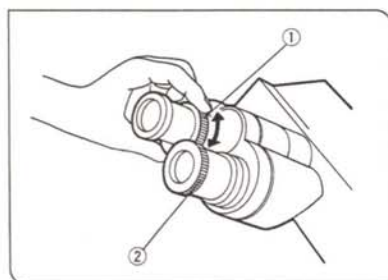

Fig. 28
#### 2 Diopter Adjustment (Figs. 28,29)
2. Looking through the left eyepiece with your left eye, turn the diopter adjustment ring ① to where the specimen is in focus. (Fig. 28)
1. Looking through the right eyepiece with your right eye, turn the knurled ring on top of the eyepiece until you see two distinct sets of reticles in the field of view. (Figs. 28,29)
3. Looking through the left eyepiece with your left eye, turn the diopter adjustment ring ① using a finder eyepiece